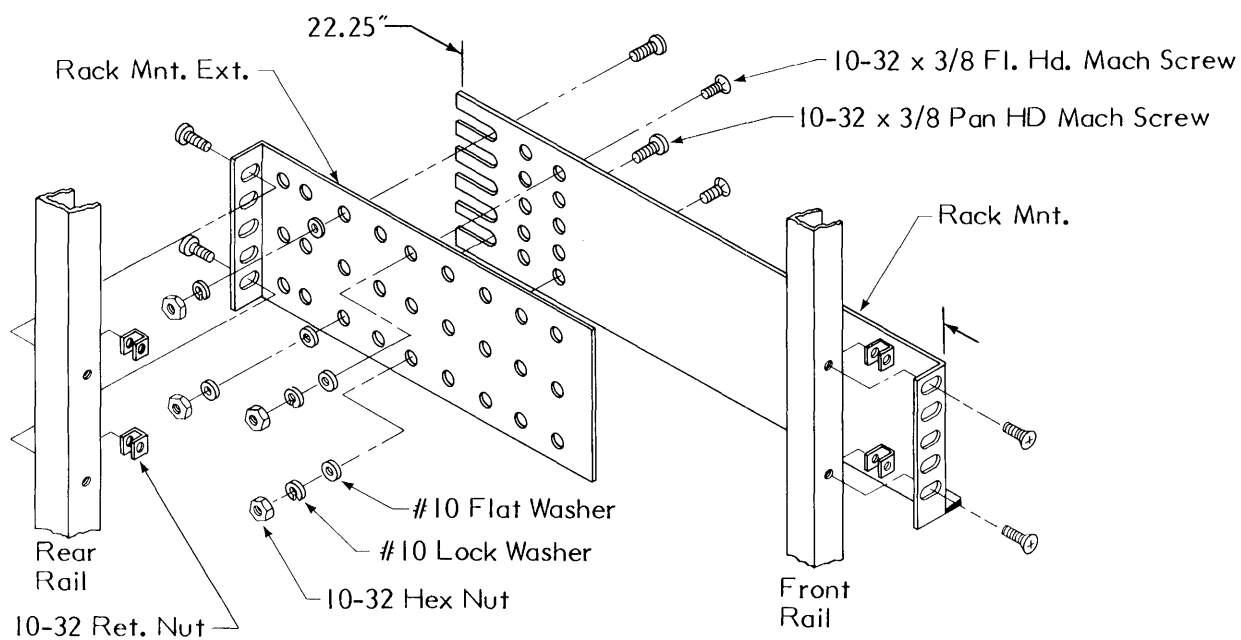

Figure 2-2. Installing Chassis Mounts
- 1) Attach the optional slim-line chassis mounts to your rack using the hardware supplied with the mounts. Note that the left and right rear extender brackets are not interchangeable. Figure 2-2 illustrates the correct relationship of the rack mounting components.